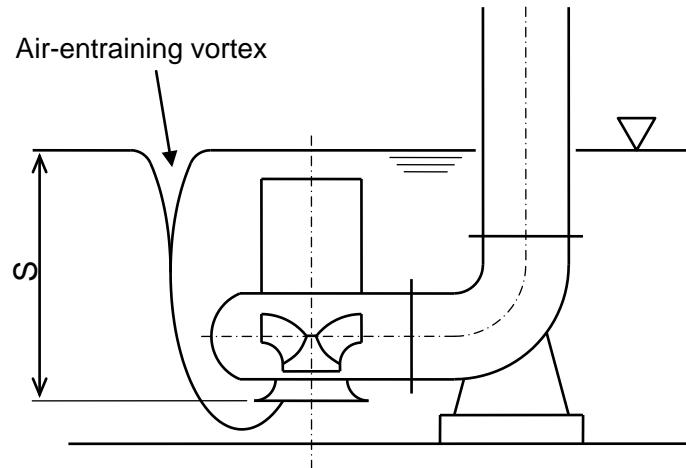

Fig.1-6 AIR-ENTRAINING VORTEX
Lack of enough submergence causes the generation of harmful air-entraining vortices as shown in Fig.1-6. The submergence at which generation of vortices can be avoided is termed as the **Minimum Submergence (S)**.